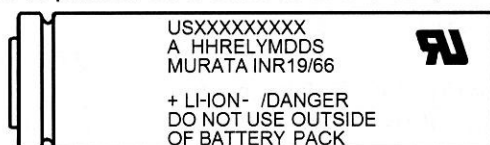
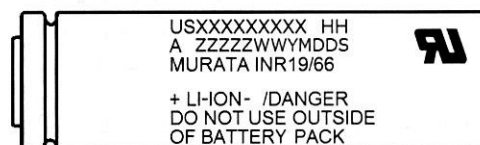

Fig.1
Fig.2
5.2 Model Name(Fig.1, Fig.2 : USXXXXXXXXXX)
1 5.3 Factory(Fig.1, Fig.2 : A for factory code)
【Fig.1】 K : Tohoku Murata Manufacturing Co., Ltd. Koriyama Plant.
【Fig.2】 SG or G : Murata Energy Device Singapore Pte. Ltd.
5.4 Specification(Fig.1, Fig.2 : HH for Cell Type)
5.5 Lot Number(Fig.1, Fig.2: YMDDS for Manufacturing Date of Cells)